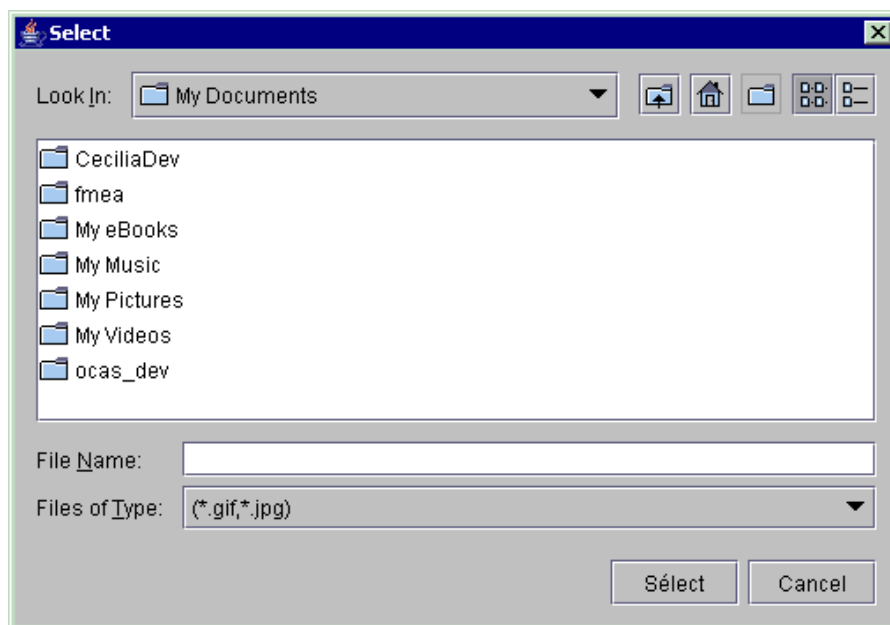

Figure 60 : Select window
- In the Select window (Figure 60), click on the Look in selector and move down in the architecture up to the directory containing the icons to be imported.